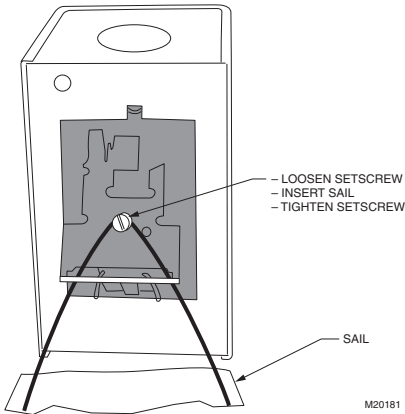

Fig. 12. Attaching sail to switch.
4. Attach the sail to the switch as shown in Fig 12.